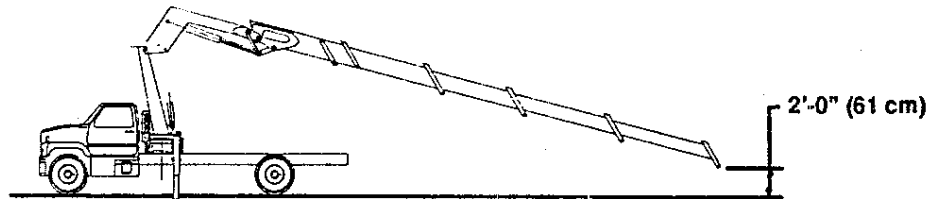

Figure G-3. CRANE POSITION
2. Position the outer boom below horizontal with outer boom cylinder extended, so as to have the end of the last extension boom approximately 61cm above the ground. See Figure G-3.